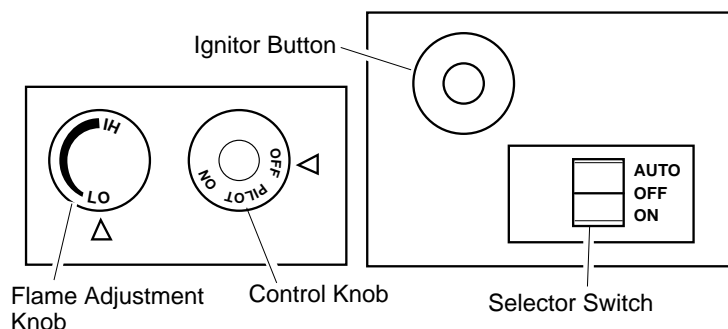

Figure 31 - Control Knob and Ignitor Button Location (Shown as Supplied, No Control Options)
5. Wait five (5) minutes to clear out any gas. Then smell for gas, including near the floor. If you smell gas, **STOP!** Follow "B" in the safety information. If you don't smell gas, go to the next step.
6. Press in and turn control knob counterclockwise to the PILOT position. Press in control knob for five (5) seconds (see Figure 31).